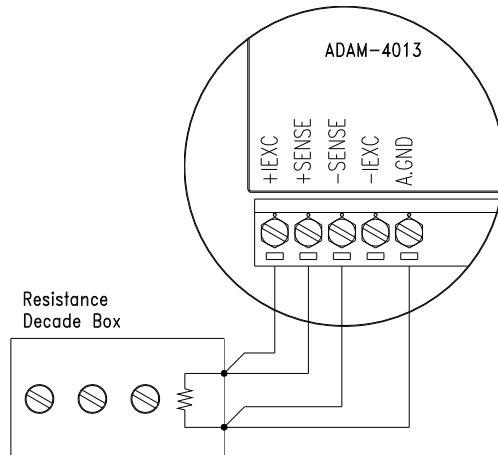

Figure 8-5 *Applying calibration resistance*
3. Apply the reference Span resistance to the screw terminals using a 4-wire connection. Please refer to Figure 8-5 for the correct wiring diagram and Table 8-2 for the right Span calibration resistance).
4. Apply the reference Offset resistance to the terminals of the module. (Please refer to Figure 8-5 for the correct wiring diagram and Table 8-2 for the right Offset calibration resistance.)